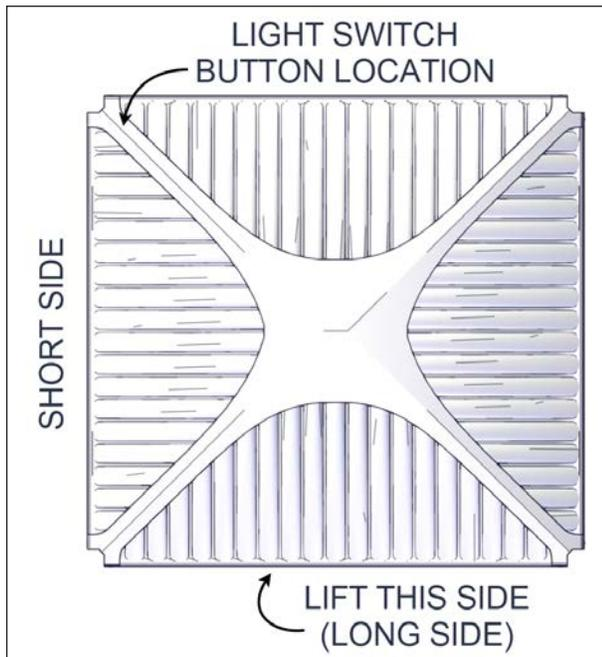
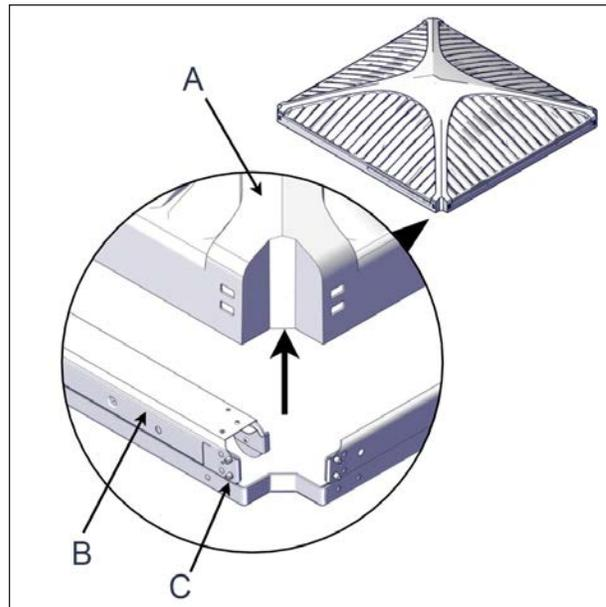

FIGURE 30: SHORT AND LONG SIDES OF THE COVER
FIGURE 31: OUTER SHELL LIFTING
2. Locate the light switch button, see Figure 30.
3. Lift and split the long side of the outer shell opposite to the light switch button for the next steps. To split the cover into two parts, you must remove the outer shell by pushing inwards on the steel frame of the inner shell, see Figure 30 and Figure 31. This will clear the metal inserts from the outer shell for